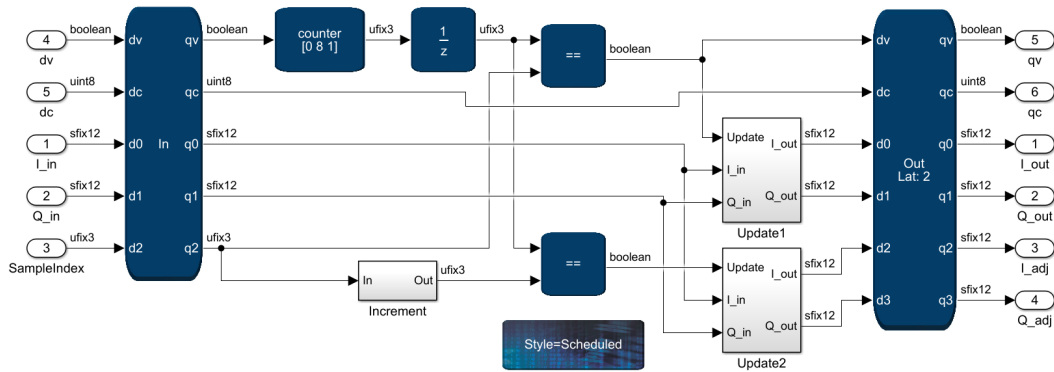

Figure 2: View of the updated *Decimation* subsystem.
- Connect the **I_adj** and **Q_adj** output so that they output the sample at the position defined by the output of the *Increment* block. An example of how this can be done is shown in Fig. 2.